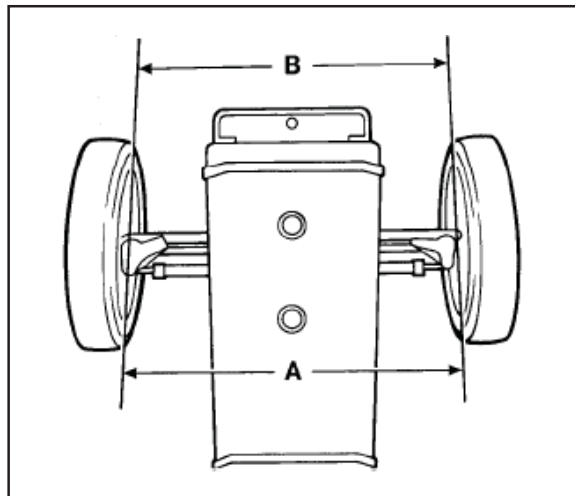

Fig.111
2. Check the wheel toe-in (Fig. 111) measured on the center of the axle at the wheel rim. Distance A must be 0-4 mm (0-0.156 in) greater than distance B.